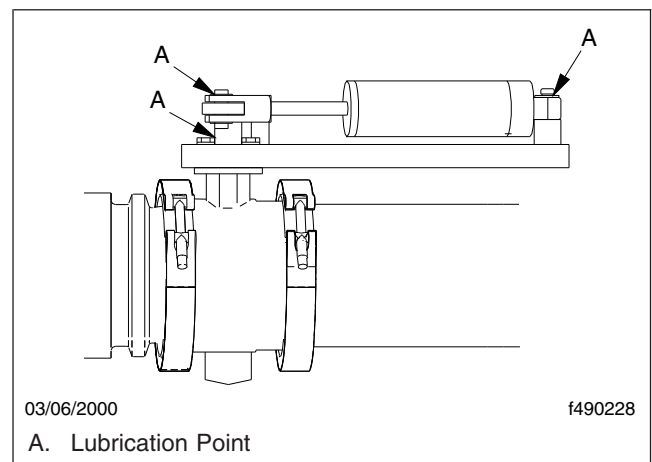

Fig. 11.5, Pacbrake Exhaust Brake and Air Cylinder
1. With the engine shut down, use any oil-free or nonpetroleum-based high-heat lubricant, and spray or coat a sufficient amount on the restrictor valve shaft and the attaching locations at each end of the actuation cylinder. See Fig. 11.5.